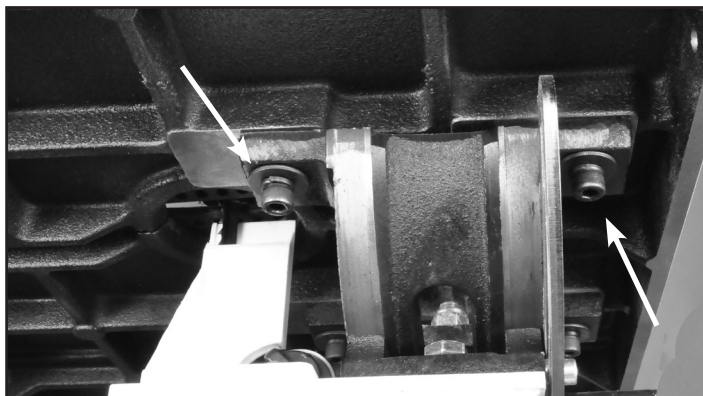
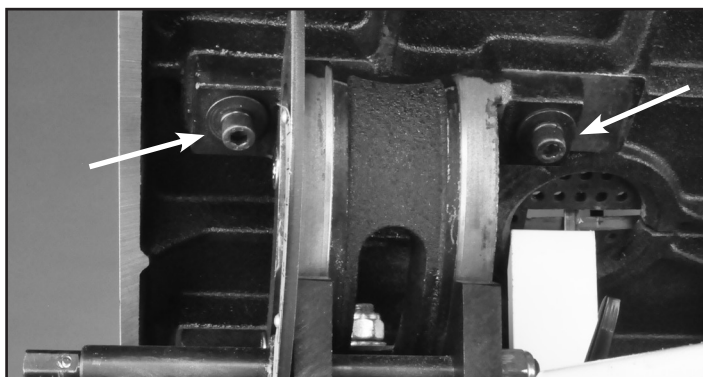

FIGURE 2
FIGURE 3
2. Attach the table to the trunnion with the four Hex Socket Cap Screws, Spring Washers and Washers (Parts #12B, 11B, 10B). Install two bolts to the right of the blade, hand tightened only. Fig. 2. Then tip the table to 45 degrees and install the two bolts to the left of the blade. Fig. 3. DO NOT fully tighten the bolts at this time. Return the table to the horizontal position.